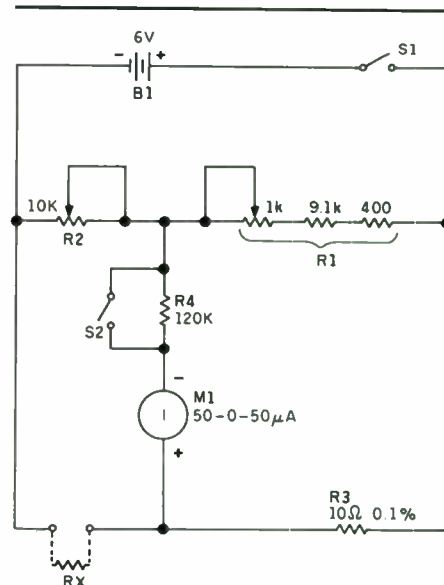

FIGURE 2: The voice coil (0-100Ω) Wheatstone bridge circuit.
THE CIRCUIT. This version of the Wheatstone bridge is a simplification of a circuit published by *Popular Electronics* in 1972.² The voice coil bridge circuit (*Fig. 2*) requires a few high quality parts: two calibrated 10Ω resistors, a ten-turn potentiometer and a 50-0-50 microammeter. The calibrated resistors cannot be obtained over the counter at your parts store but will be available through Old Colony. The ten-turn pot can be purchased at industrial electronics parts stores or through Old Colony. The microammeter can be found sometimes as a surplus item (500-0-500, 100-0-100 or 25-0-25 microammeter movements may be substituted). An alternative is to use your DVM as a null meter since it can measure plus or